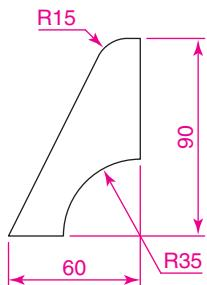

Fig. 17.12 Third example UCS – outline for 3D model
3. Construct the outline Fig 17.12 and extrude to a height of **120**.